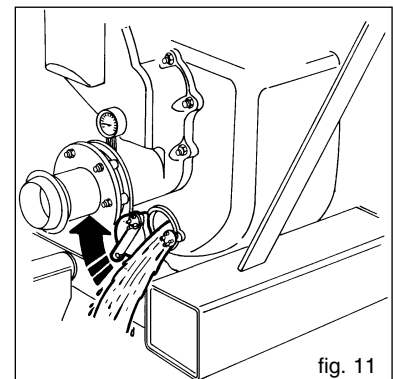

fig. 11
Never leave liquid in the pump casing. Drain the casing through the drain cover (fig. 11). During winter months and cold weather, the liquid could freeze and damage the pump casing. If the liquid is hazardous, take all necessary precautions to avoid damage and injury before emptying the pump casing. From time to time, turn the pump shaft to avoid encrustation inside the pump.
- Drain liquid from the pump by means of the drain cover (fig. 11).